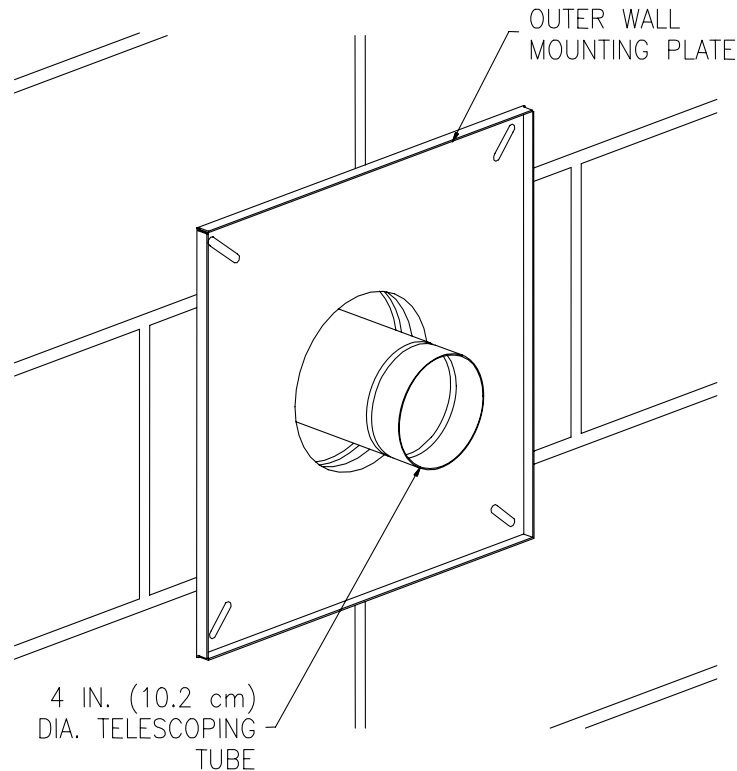

Figure 13.
9. From outside the building, slide the six (6) inch (15.2 cm) diameter telescopic tube through the opening in the wall until the outer wall mounting plate is flush with the wall (See Figure 13).